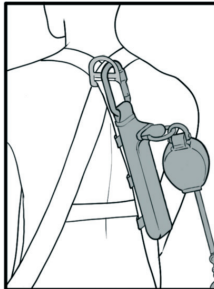

fig.3
3. Fit the Velcro closings to the appropriate section of harness web to retain the shock absorbing pack (fig.3).